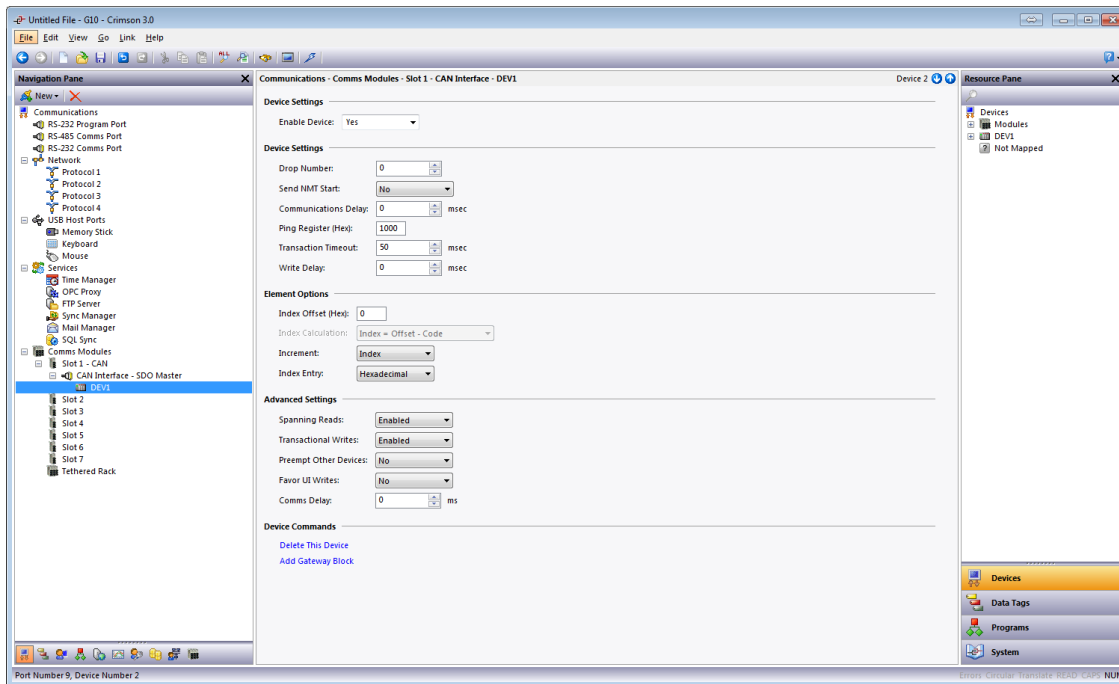

Figure 4.
3. Select *CANOpen - SDO Master* and click on the *OK* button; Figure 4 appears.
- Referring to Figure 4, a new device called "DEV1" will be created (this can be renamed by right-clicking on it and selecting the "Rename" option, if desired)
- Ensure that the Drop Number and other settings correspond to those expected by the CAN Open End device; default values are shown in Figure 4.